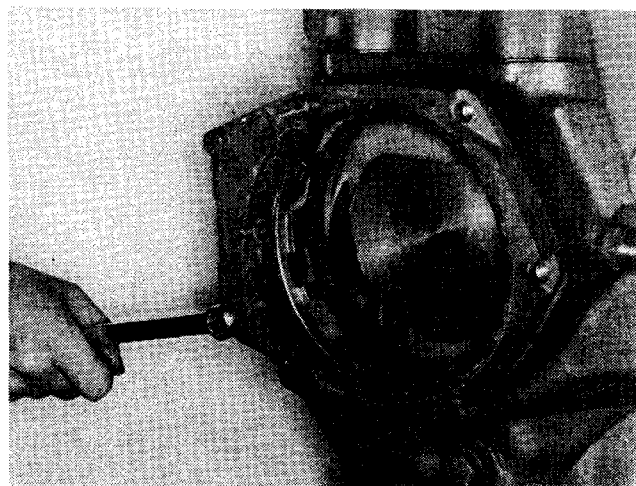

Fig. 14-39, (N114191). Installing fan hub support (NTA Series)
1. Install water pump support and gasket (Fig. 14-39), tighten to 30 ft-lbs [41 N•m] torque.